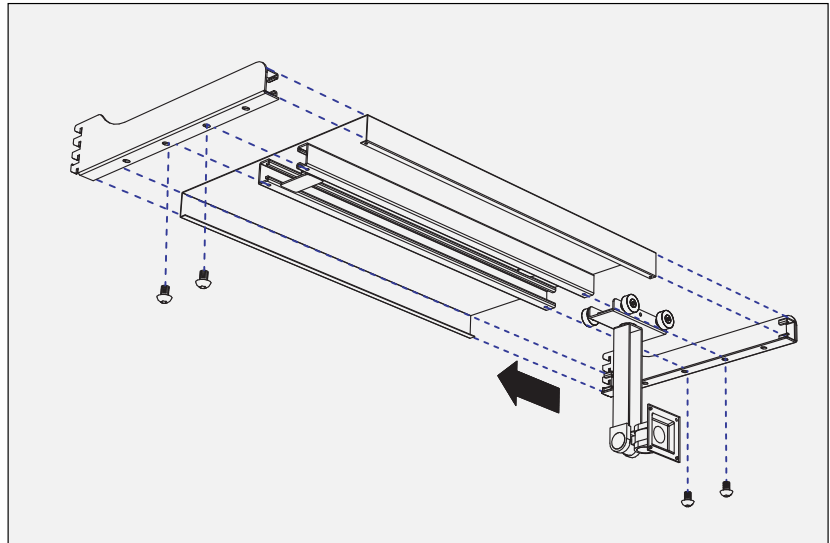

Fig. 9
A Monitor Track Shelf is required whenever an LCD Suspension Arm is used. The Monitor Track Shelf Assembly consists of a left and right bracket, a track, a shelf plate and mounting screws (Fig. 9).
- A. Attach the track to the left bracket using (2) screws (Fig. 9). Note there are (3) possible locations for attaching the track to the brackets, front, center, or back.
- D. Complete the assembly by attaching the right bracket using (2) screws (Fig. 9).